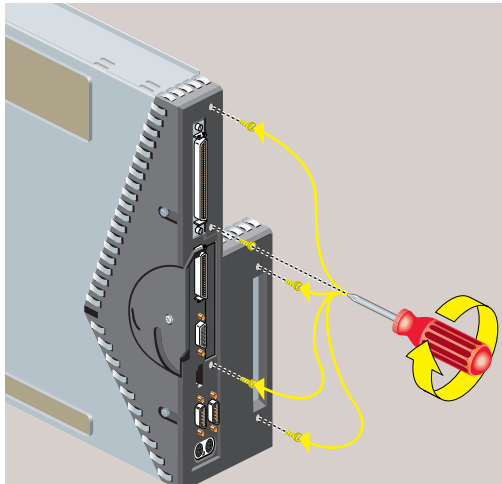

Figure 2-43 Replacing Five Screws on the Face Plate
- Use a Phillips screwdriver to insert and tighten five screws on the rear in the locations shown (Figure 2-43).